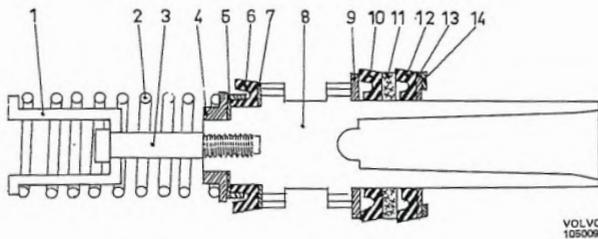
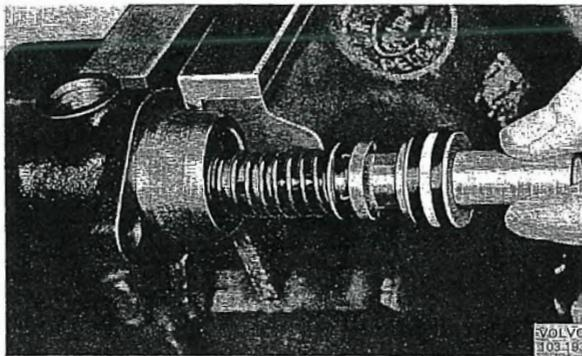

Fig. 5-51. Primary piston
Fig. 5-52. Fitting primary piston
3. Fit the thin washer (7, Fig. 5-51), seal (6) and back-up ring (5) on the primary piston. Fig. 5-51 shows how the parts should be located. Fit the spring (2) with spring plate (4) and sleeve (1) on the primary piston. Compress the spring and tighten the screw (3) to the bottom. The tightening torque is 2-3 Nm (1.5-2.2 lbft).
4. Fit the washer (9), seal (10), plastic washer (11), seal (12) and washer (13) on the primary piston.
5. Dip piston and seals in brake fluid and observe care when fitting the parts in the cylinder, see Fig. 5-52. Fit the circlip (14, Fig. 5-51) in position. Fitting of the parts is made easier if the primary piston is held pressed in with the help of a 3 mm (1/8") drift through the overflow hole or with the help of a clamp.